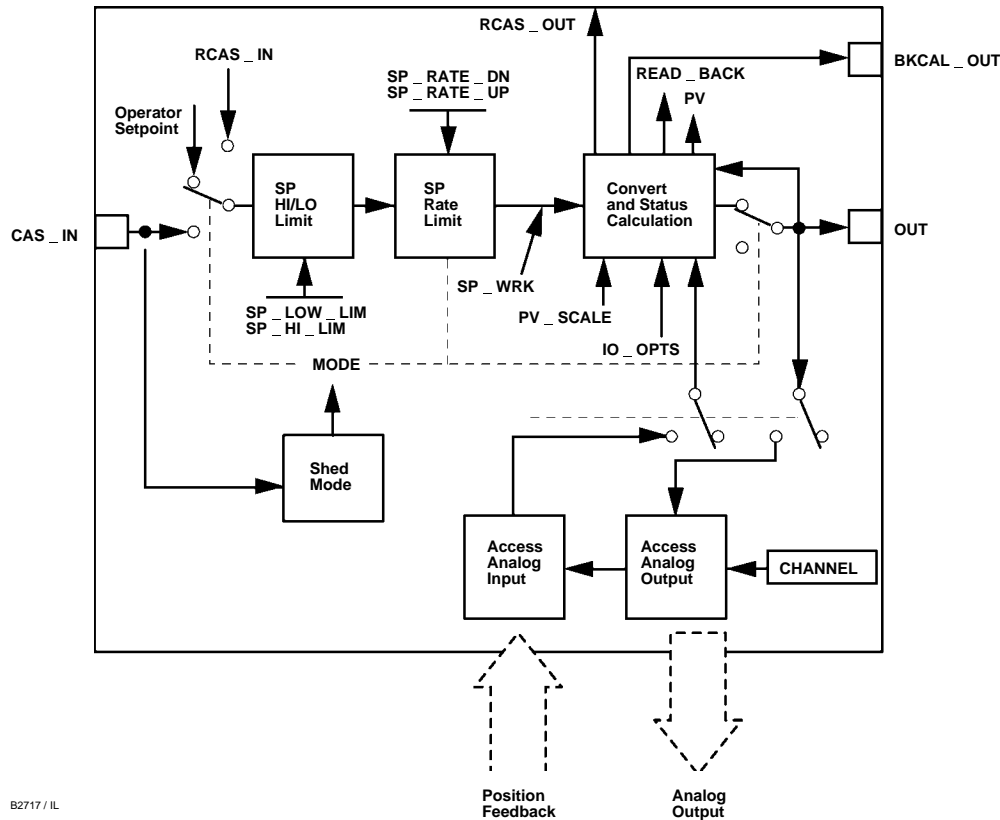

Figure 4-9. Analog Output Function Block Schematic
The Analog Output (AO) function block assigns an output value to a field device through a specified I/O channel. The block supports mode control, signal status calculation, and simulation. Figure 4-9 illustrates the internal components of the AO function block, and table 4-24 lists the definitions of the block parameters. The digital valve controller measures and uses actual valve position for REDBACK [16].